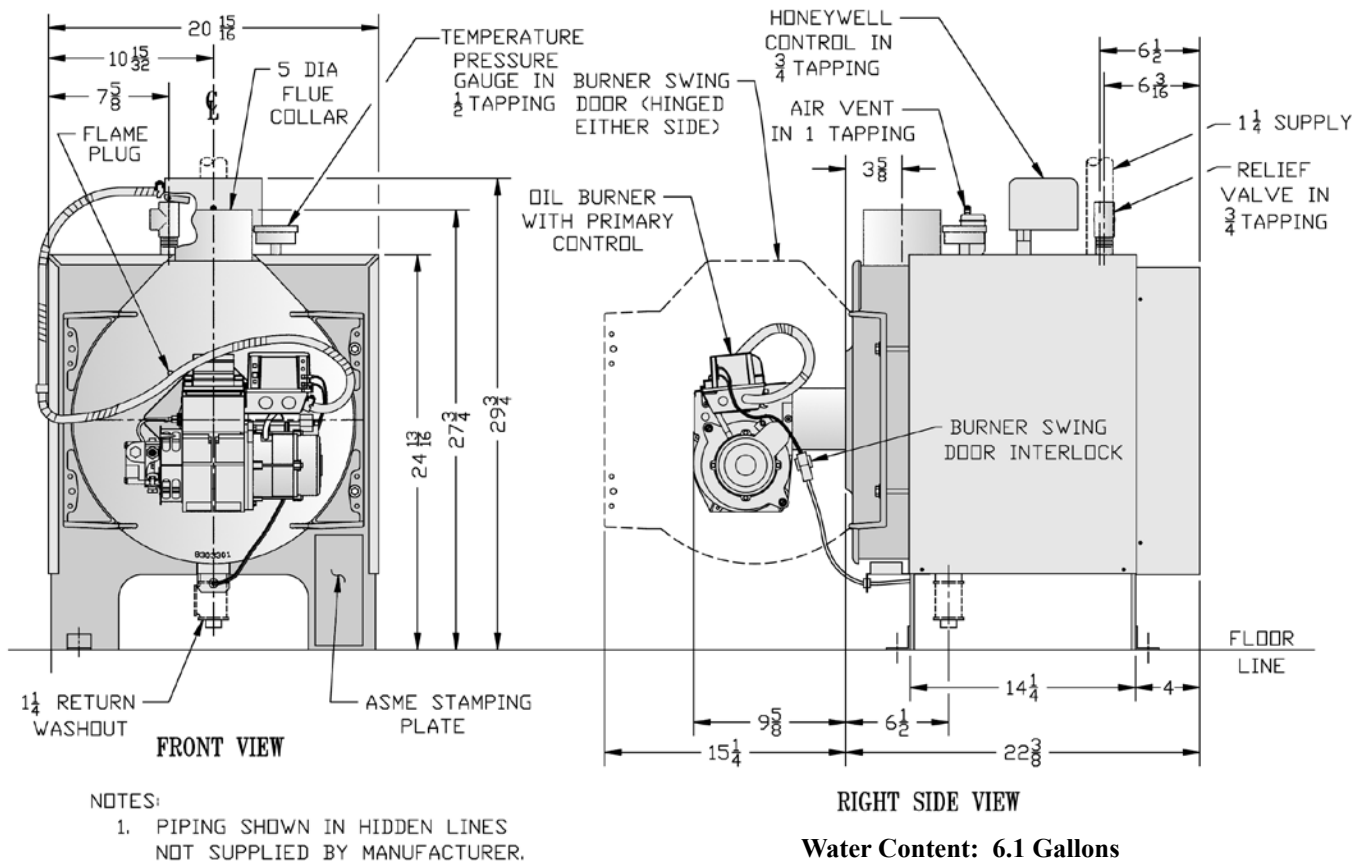

Figure 1: microTEK3 Packaged Boiler
- 2. LOCATE BOILER** in front of final position before removing crate. See Figure 1.